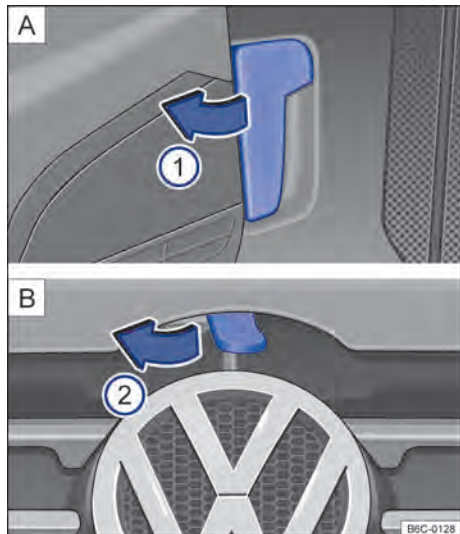

Fig. 179 **A** Bonnet release lever on the driver side footwell. **B** Bonnet release lever on the inner side of the bonnet.
- Ensure that the windscreen wiper arms are positioned on the windscreen before opening the bonnet → ①.
- Open the driver door and pull the release lever in the direction indicated by the arrow → Fig. 179 [A] ①. The bonnet is released from its lock by a spring mechanism → ⚠.
- To fully open the bonnet raise it slightly and at the same time press the release lever on the inner side of the bonnet in the direction indicated by the arrow → Fig. 179 [B] ②.